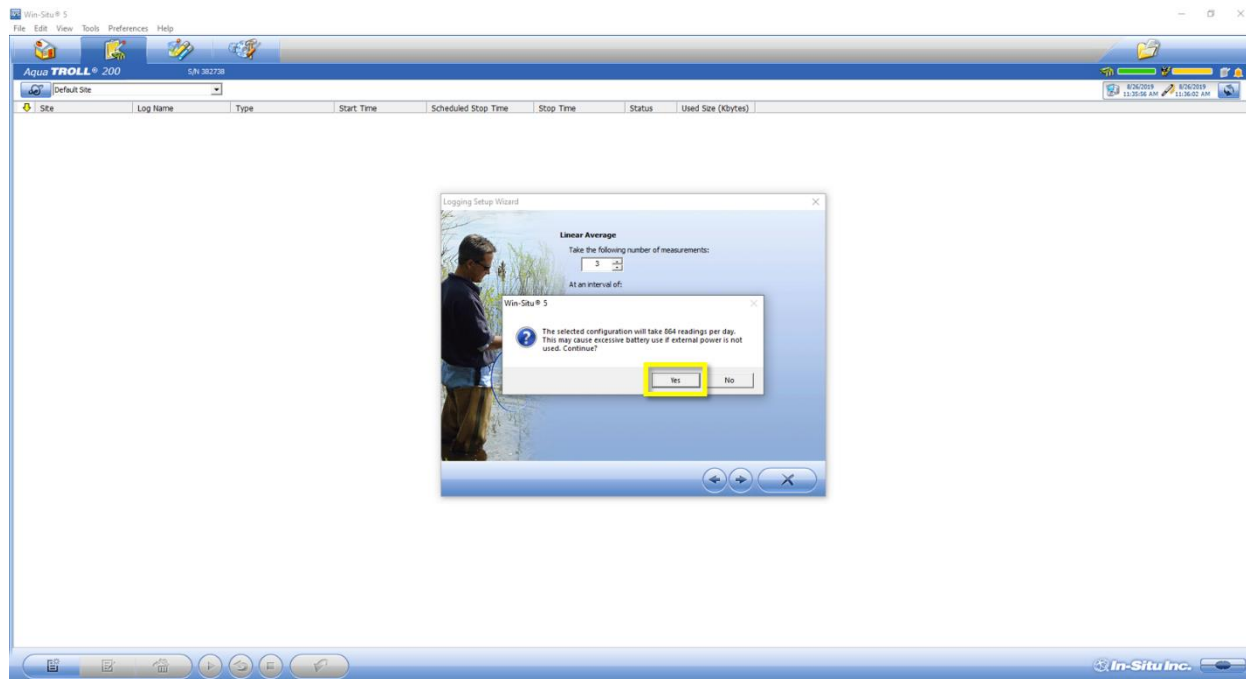

Figure 16. Ignore the Pop-Up Window & Click "OK"
8. In the pop-up warning about excessive battery use, select “Yes” (Figure 16).